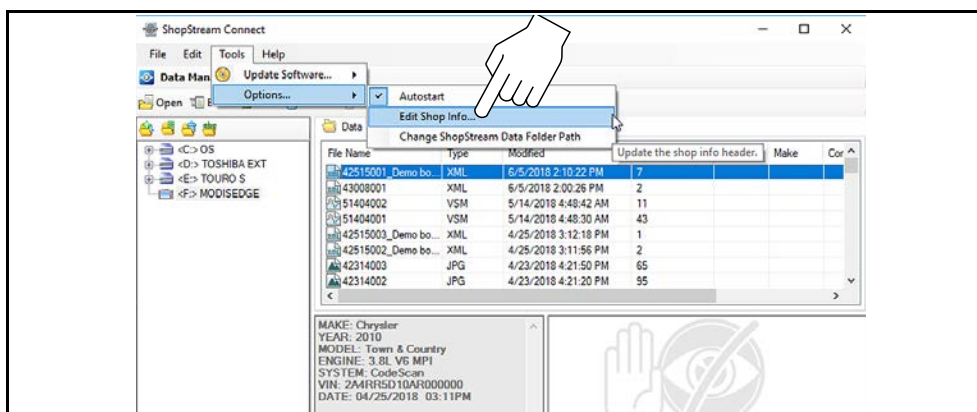

Figure 5-12
1. From ShopStream Connect, select **Tools > Options > Edit Shop Info** (Figure 5-12).